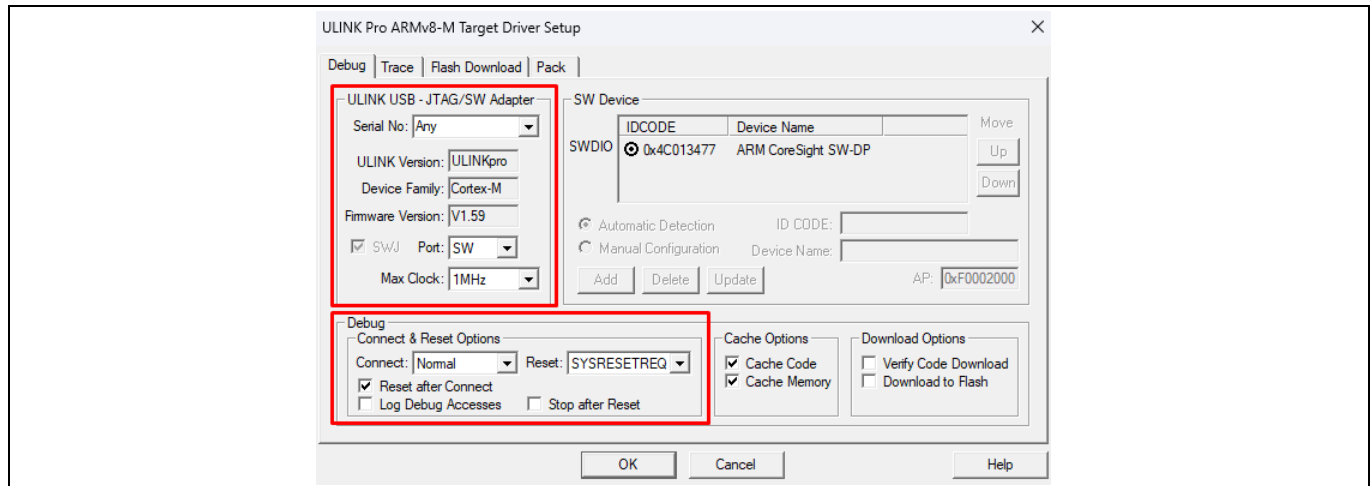

Figure 9 Configurations in Debug > Debug tab
4. In the new window, configure the settings for the **Debug** tab to match Figure 9.